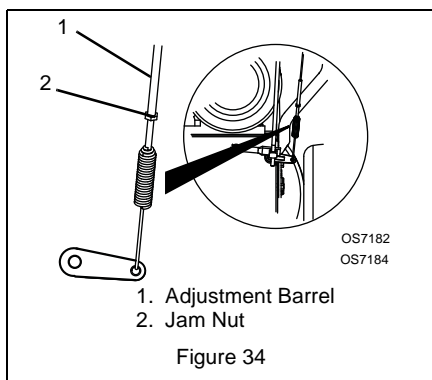

Figure 34
(Figures 34 and 35)
4. Loosen jam nut on cable adjustment barrel, and then turn the adjustment barrel up or down to lengthen or shorten cable and remove all cable slack (Figure 34).